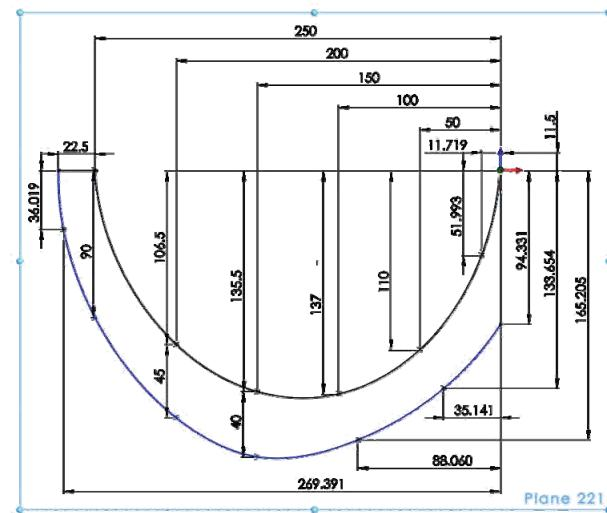

Fig. 3.9
**11 Schițare contur 4:** comanda Sketch- Fig. 3.9 – Selecție plan 221 / Schițare contur / .
**11 Sketching of the 4 contour:** the Sketch command - Fig. 3.9 – Select 221 Plane / Sketch the contour / .